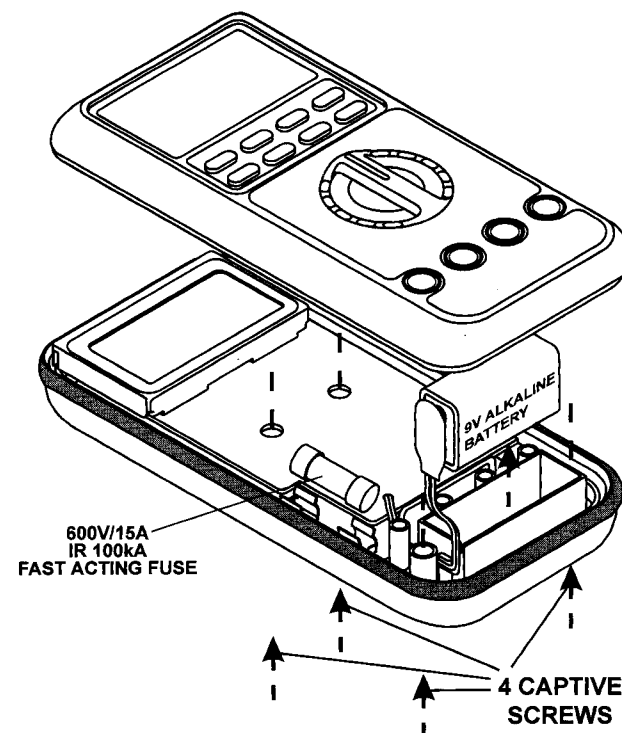

FIG 22. CHANGING BATTERY & FUSE
- 3) Loosen the four captive screws from the case bottom and turn the case over. See **FIG 22**